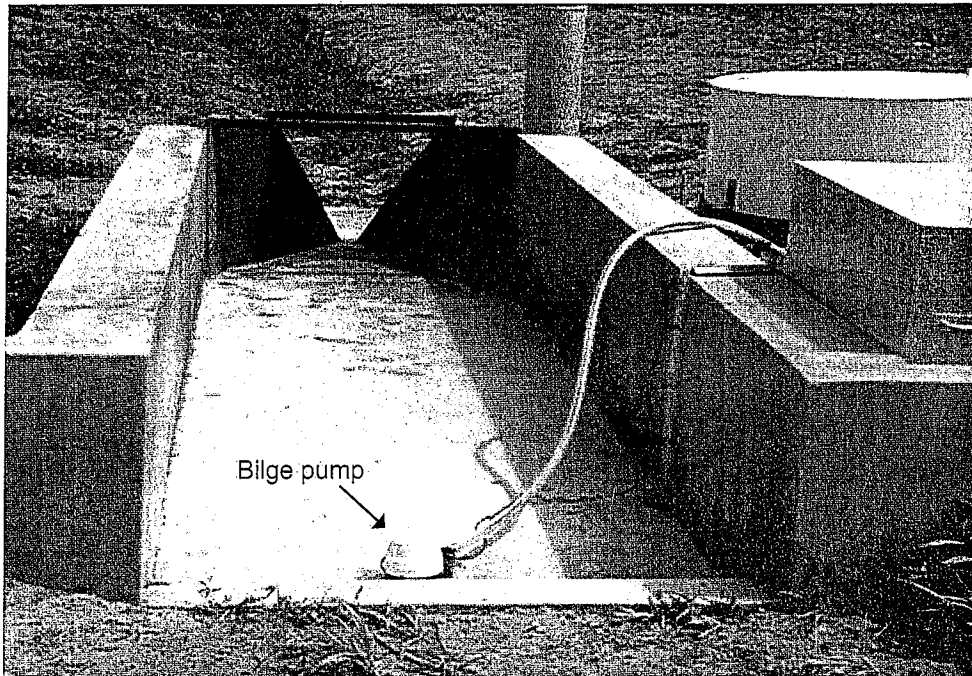

Figure 10. Bilge pump installed at runoff measuring structure (H-Flume)
10. Install the main sediment sample collection unit with bottles and DC shunt motor (Fig. 10) on the flat cemented platform. The top part of the sediment sampler should be perfectly level. This is essential for the proper sampling of runoff water into the bottles. Also install the bilge pump at the appropriate place of runoff measuring structure or channel (Fig. 10). Provide the necessary electrical and water pipe connections between the sampling unit and bilge pump.